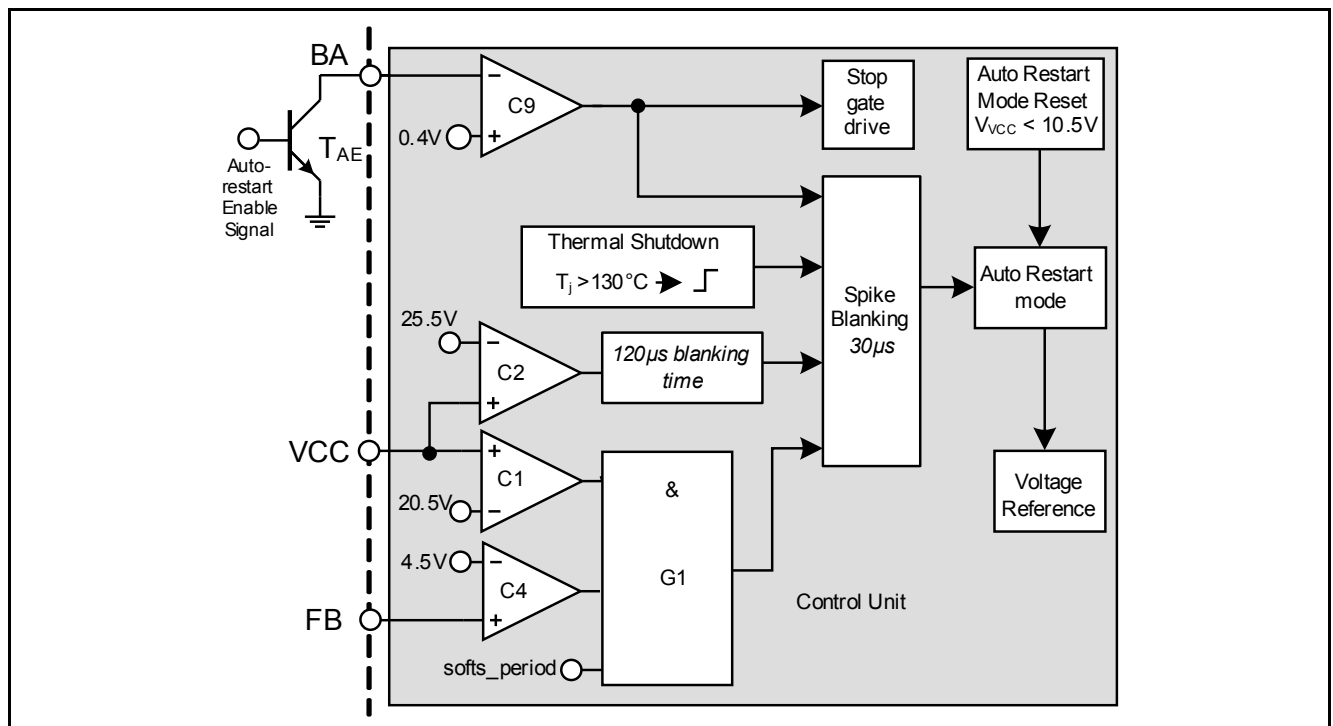

Figure 28 Vcc OVP, OTP, External Protection Enable
Vcc OVP (1) condition is when V_{VCC} voltage is $> 20.5\text{ V}$, V_{FB} voltage is $> 4.5\text{ V}$ and during the soft start period, the IC enters into odd skip auto restart mode. This condition likely happens during start-up on an open loop fault (Figure 28).
Vcc OVP (2) condition is when V_{VCC} voltage is $> 25.5\text{ V}$, the IC enters into odd skip auto restart mode (Figure 28). The overtemperature protection OTP is sensed inside the controller IC. The Thermal Shutdown block keeps on monitoring the junction temperature of the controller. After detecting a junction temperature higher than $130\text{ }^{\circ}\text{C}$, the IC will enter into the nonswitch auto restart mode. The IC is also implemented with a $50\text{ }^{\circ}\text{C}$ hysteresis. This means the IC can only be recovered when the controller junction temperature is dropped $50\text{ }^{\circ}\text{C}$ lower than the overtemperature trigger point (Figure 28).
external transistor, T_{AE} at the BA pin. When this function is enabled, it will enter into the nonswitch auto restart mode. The gate drive is stopped and there is no switching pulse before it is recovered (**Figure 28**).